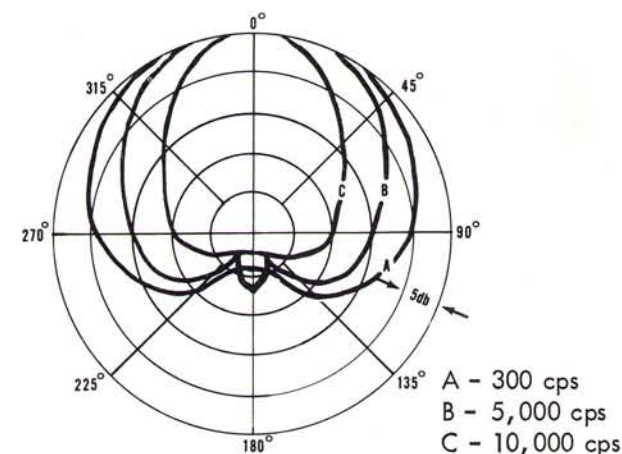

Figure 3 - Polar Pattern
- POLAR PATTERN:** Cardioid. Uniform front-to-back discrimination. See Figure 3.